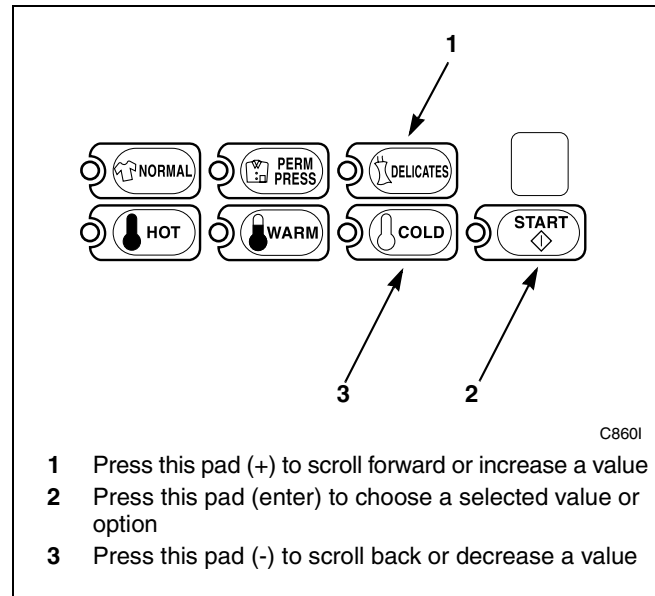

Figure 158
5. Press the DELICATES (+) or the COLD (-) keypad to increase or decrease the current number of minutes displayed in the VFD to the desired number of minutes. Refer to *Figure 158*.